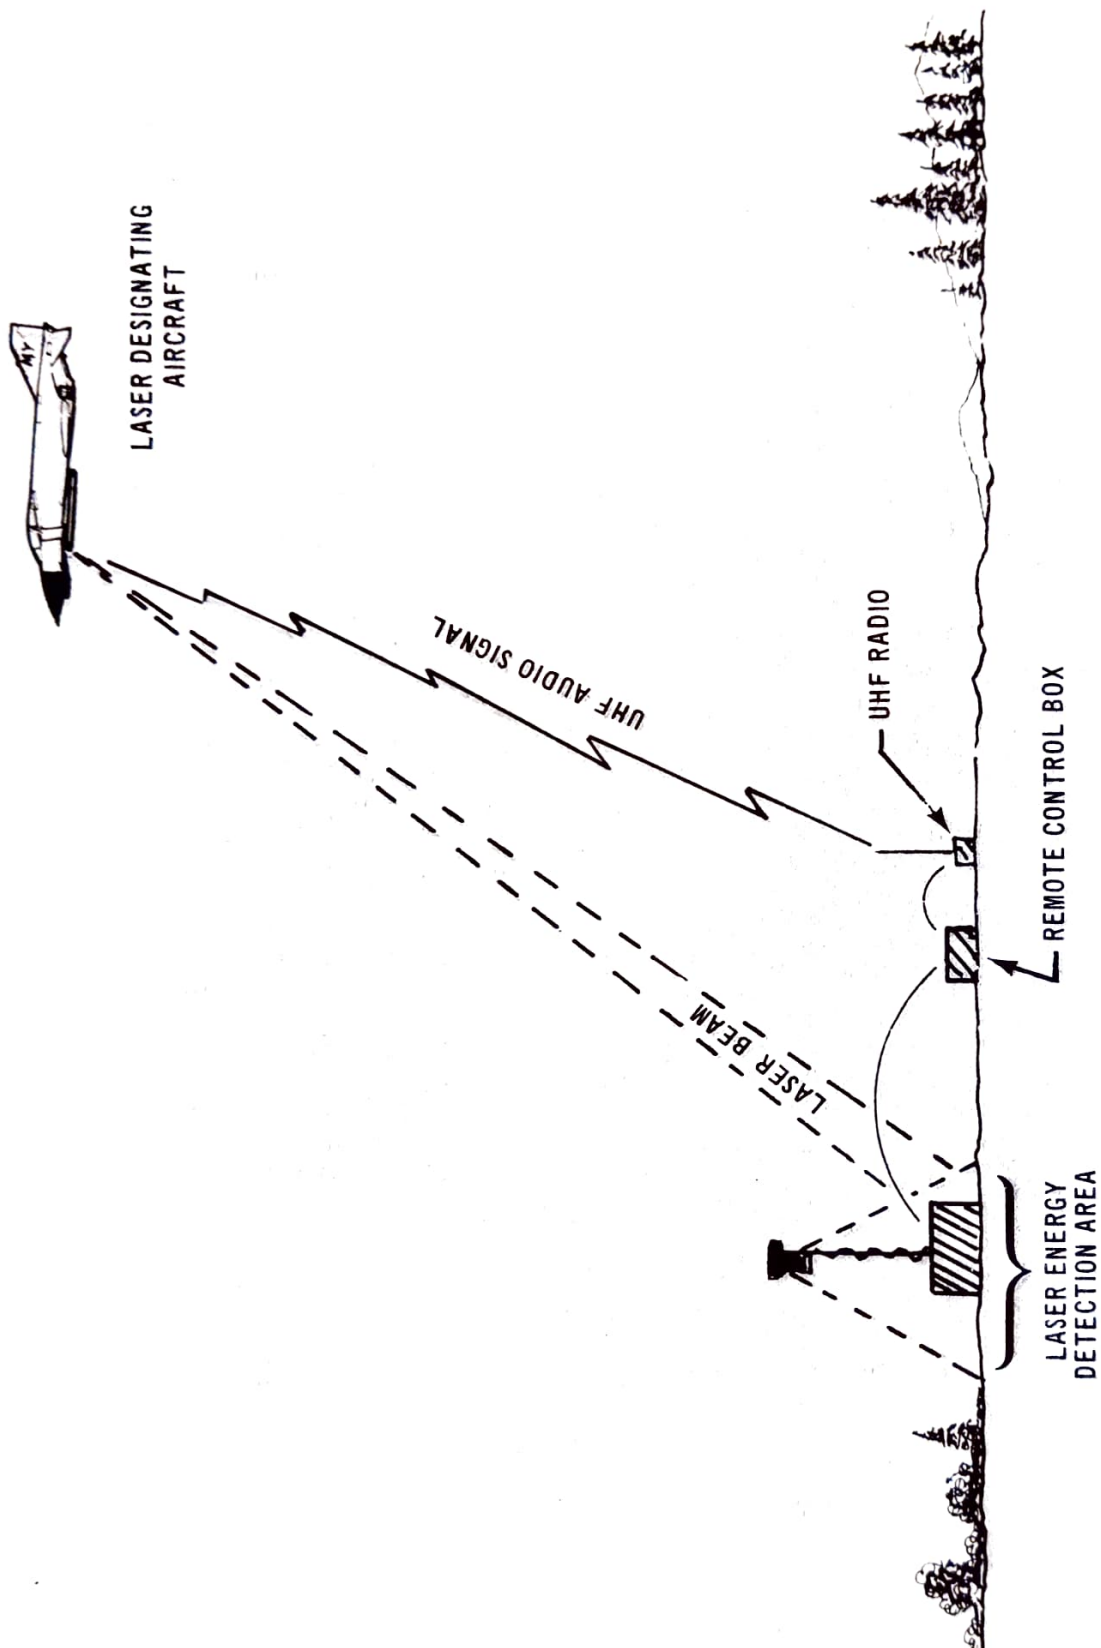

Figure 38 LTDSS Operational Concept.
**INTRODUCTION.** The AN/DSQ-T34, commonly referred to as the LTDSS, was developed to aid in the training and proficiency evaluation of personnel using laser target designators currently in the Air Force inventory, as well as future designator systems. It is a self-contained, portable, battery-operated unit that can be used on either scored to tactical ranges. The system may be operated by ground range personnel or left unattended when documented scoring is not required. Scoring of laser pulses striking the target is accomplished by an electromechanical counter and, in addition, an audible tone pulse is transmitted to the designator aircraft by a UHF radio. The typical operational concept of the LTDSS is shown in Figure 38. No special test equipment is required for LTDSS checkout or repair. A built-in self-test feature is included in the system. Standard test equipment, common to most avionics/electronic maintenance facilities, is sufficient for system troubleshooting and parts repair or replacement.